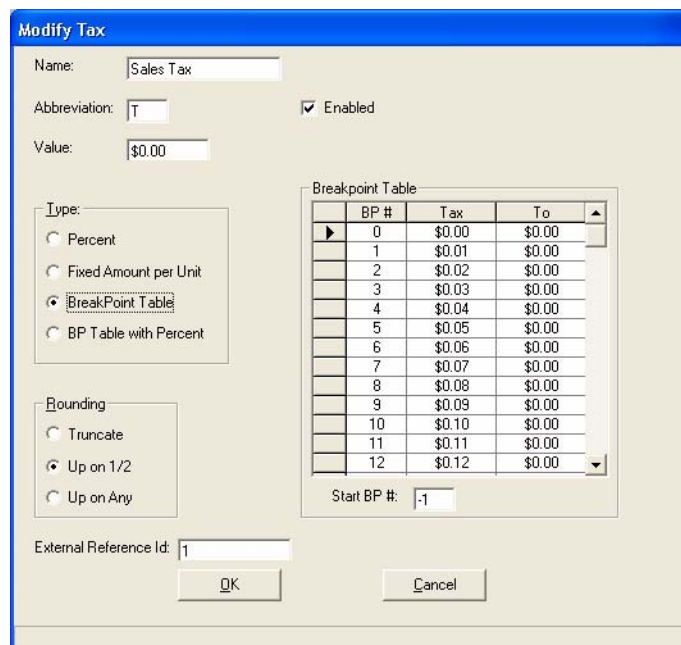

Figure 14-2 Modify Tax Window
1. To modify a tax, select the tax from the list and touch **Modify**. The Modify Tax window appears. See Figure 14-2.